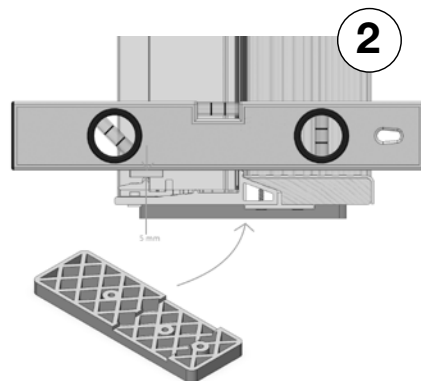

Figure 6: Check level in in/out direction using the supplied green 5 mm plastic blocks and a spirit level
2. Remove the aluminium cover at the fixed part. The sliding door is fastened by drilling through the aluminium frame externally behind the cover, keeping the mounting screws hidden (figures 6 and 7).